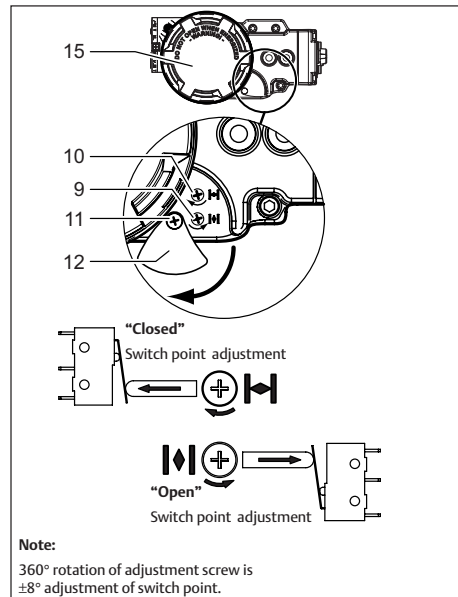

Fig. 5.3 Re-adjustment screws for “Open” and “Closed” position feedback
The QC41, QC42 and QC43 are equipped with non-intrusive switch adjustment. The adjustment screws are accessible behind a small shield in the front of the module (see Figure 5.3). This means that the switch adjustment can be done without opening the module.
- In this case the top adjustment screw (see Figure 5.3), sets the switch point of the “Closed” position and bottom adjustment screw sets the switch point of the “Open” position.
#### Procedure (see Figure 5.3):
**Procedure (see Figure 5.3):**
1. Remove cover (15) and loosen the screw (11) of the shield (12) and turn the shield down.
3. Turn top screw (10) counter clock wise maximum 20 turns, (**do not force the adjustment screw**) until the switch trips to the “off state” (no signal).
4. Turn top screw (10) clock wise 1 3/4 turn (**do not force the adjustment screw**).